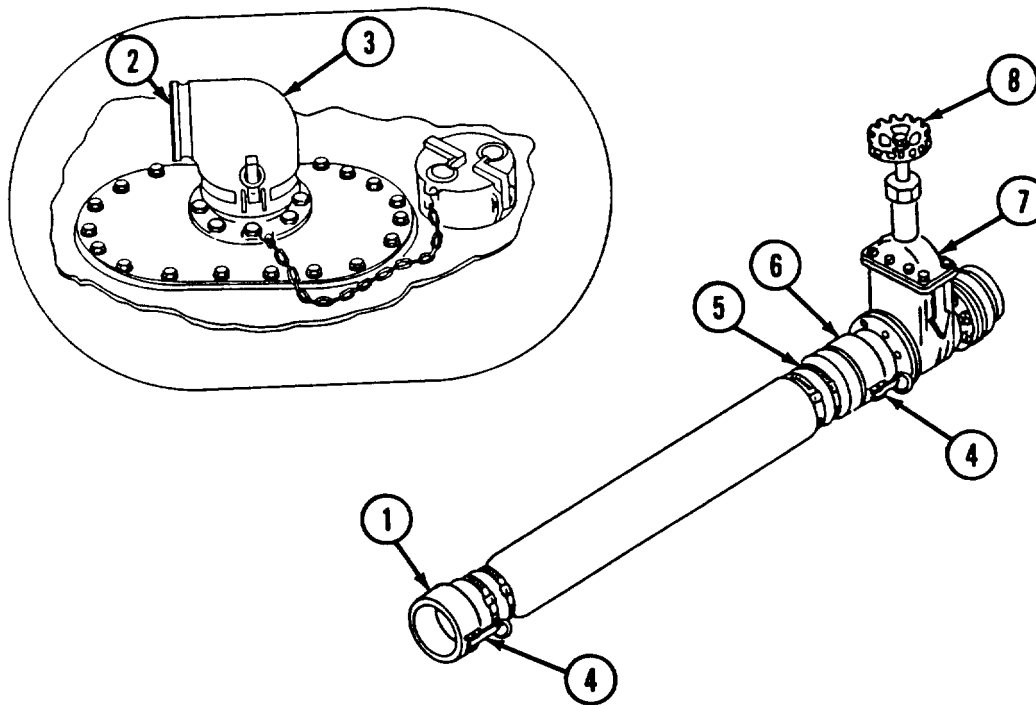

Figure 2-10. Filler and Discharge Hose Assembly and Filler and Discharge Valve Assembly
- d. Place female end (6) of elbow (4) over flanged adapter (2) with cam-lever arms (7) in outward position.
- e. Rotate elbow (4) so that open end (8) points to nearest end of tank.
- f. Lift cam-lever arms (7) and lock elbow (4) in place.
- 2-5.7 Installation of Filler and Discharge Hose Assembly and Filler and Discharge Valve Assembly. (See figure 2-10.)